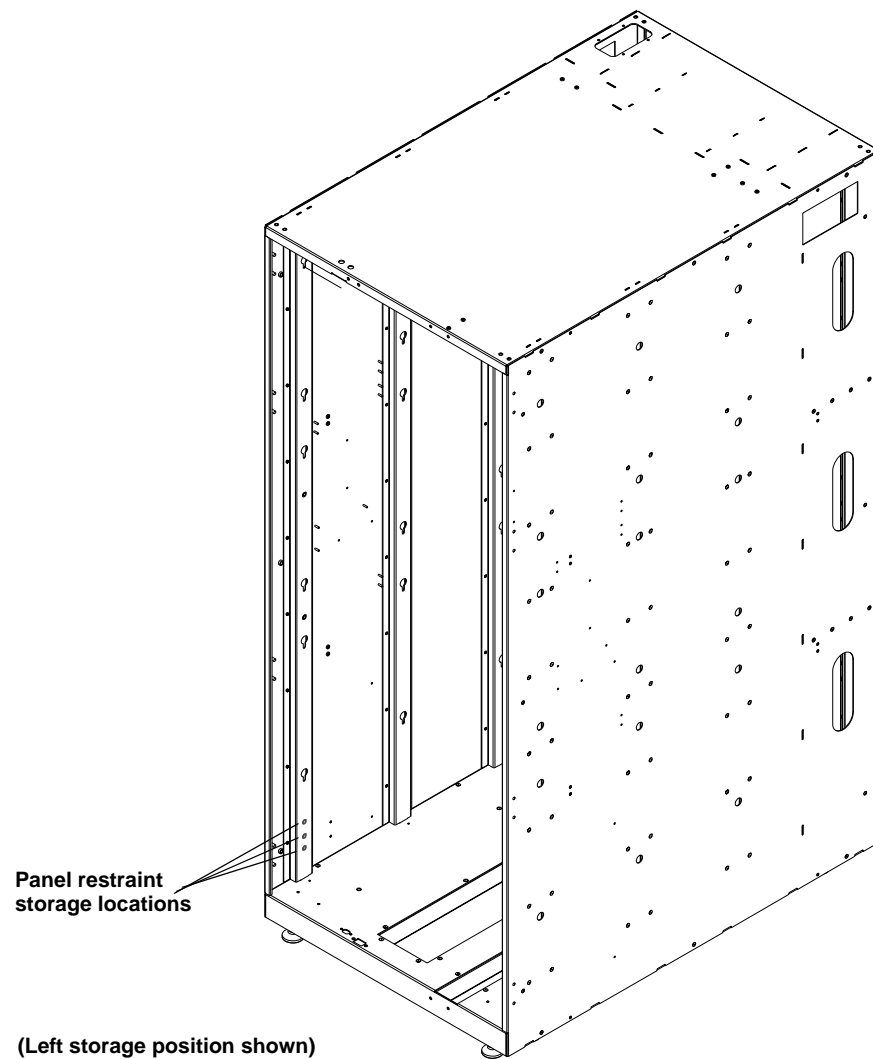

Figure 6: Storing the panel shipping restraints
7. Store the panel shipping restraint hardware (three sets on each side) on the lower cabinet frame (see Figure 6).